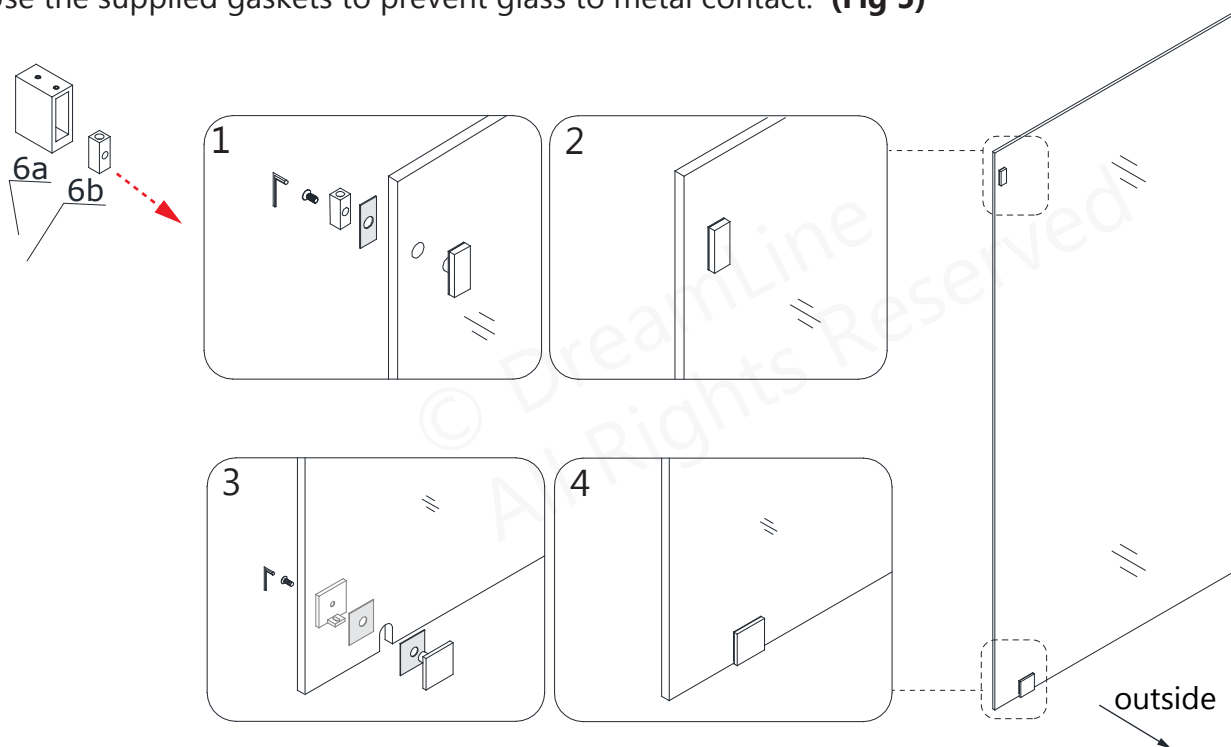

Fig 5
5. Attach the **Stationary Glass Connector (#23)** through the hole at the top of the **Return Panel Glass (#22)**. Attach the **Glass Bracket (#24)** to the bottom of the **Return Panel Glass (#22)**. Use the supplied gaskets to prevent glass to metal contact. **(Fig 5)**